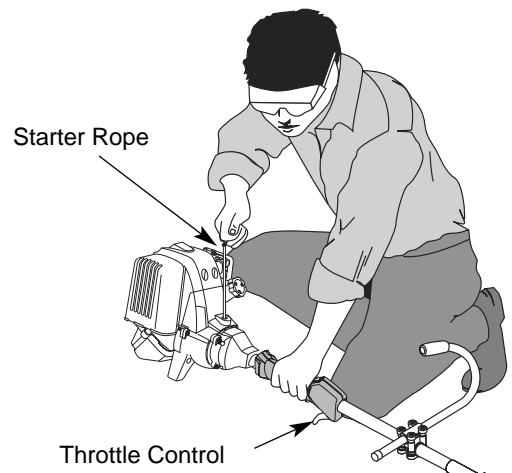

Fig. 22
**WARNING:** Avoid accidental starting. Make sure you are in the starting position when pulling the starter rope (Fig. 22). To avoid serious injury, the operator and unit must be in a stable position while starting. Make sure that any Add-On item is installed correctly and secure before starting the unit.
4. With the unit in the starting position, do not squeeze the throttle control (Fig. 22). Pull the starter rope out a short distance, until you feel some resistance. This is usually around 2-4 inches. Then pull the rope smoothly and briskly. Repeat this 5 times. The engine should start.